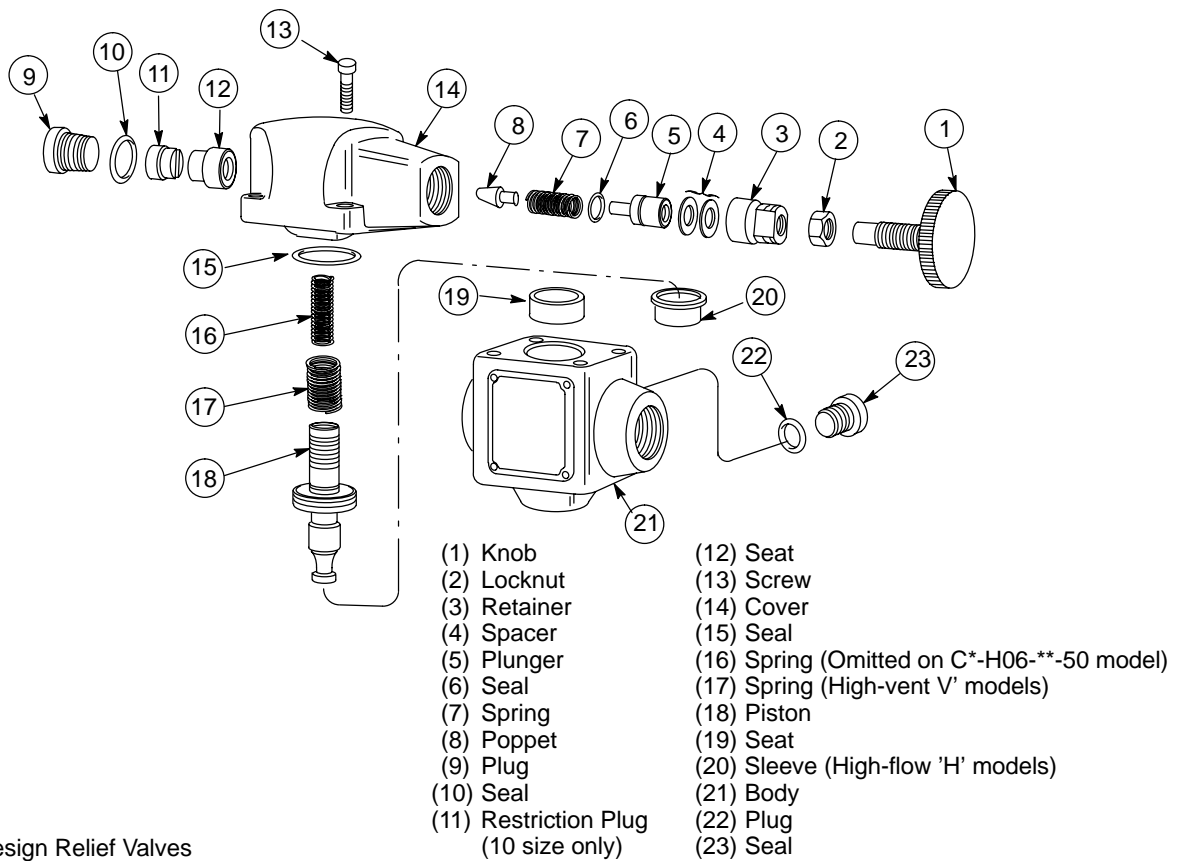

Figure 5. -50 Design Relief Valves
Periodic maintenance of the relief valve will generally not require disassembly to the extent described here. However, the following disassembly sequence can be used as a guide for partial disassembly. In general, disassembly is accomplished by item number sequence shown in Figure 5.
4. Disassemble the relief valve per Section VI, C and follow Figure 5.
Assembly of parts will be in reverse numerical sequence as shown in Figure 5. Obtain new seals. Seal kits are noted on the parts and service drawings that are tabulated in Section I, B. Make sure all parts are clean prior to assembly. Lubricate all parts with a light film of clean hydraulic fluid.